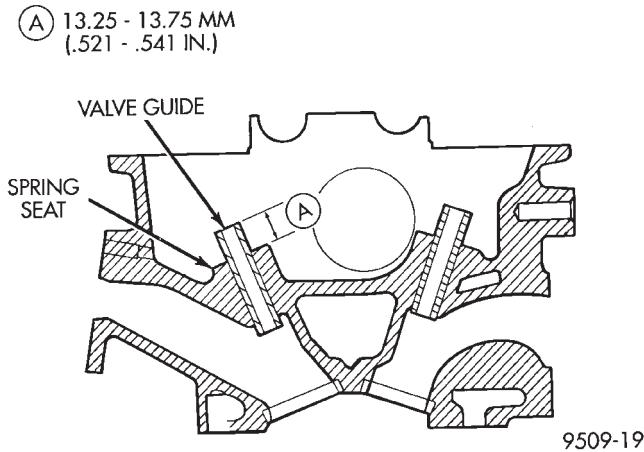

Fig. 91 Valve Guide Height
(3) Check valve guide height (Fig. 91).